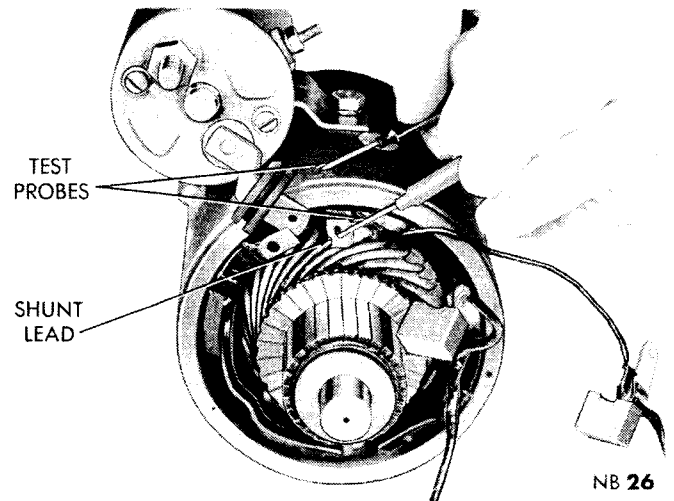

Fig. 11—Testing Shunt Coil For Ground
(6) Touch one probe to shunt field coil lead and other probe to field frame (Fig. 11).